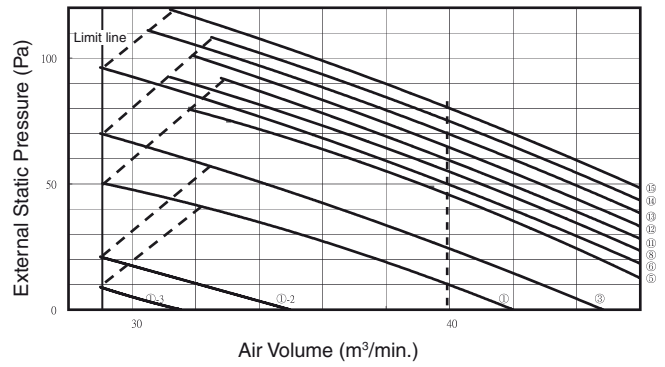

Fig. 3-18
- (2) The operation check will be completed in approximately three minutes if the settings have been made correctly. The settings will be modified if they are out of the range of use (max. 30 mins.). If this is not completed within 31 minutes, check whether the air speed is set to “H” or not.
- (3) Refer to Table 3-4 and Fig. 3-18 for details on the relationship between the value of item code “b0” and the external static pressure.
- (4) When set in group control (connecting multiple indoor units with one wired remote controller), set each indoor unit to item code “b0”. When amending the setting after selecting [b. Manual setting] (due to airflow path changes, etc.), it is necessary to cancel [b. Manual setting] (disconnect short-circuit connector). When [b. Manual setting] has not been cancelled, [c. Manual setting] and [d. Auto airflow volume setting] will be activated if selected, but [b Manual setting] takes precedence when the power is switched back on after power outages, etc.
- (5) If this is not completed within 8 minutes, check the drive mode, air speed and air inlet temperature.
- (6) When set in group control (connecting multiple indoor units with one wired remote controller), the test run operations display will disappear once the external static pressure setting check or auto airflow volume control operation check have been completed for the main unit. Decisions on sub-unit complete are not possible. The test run operation display will disappear after one hour even if the external status pressure setting check or auto airflow volume control operation check have not been completed.
- Be sure to check that the external static pressure is within the range for use and then make the setting. Failure to observe this may result in insufficient airflow or water leakages. Refer to Fig. 3-18 for the external static pressure setting range.
Refer to table 3-4 and Fig. 3-18 and select a value between "0001" and "0015".